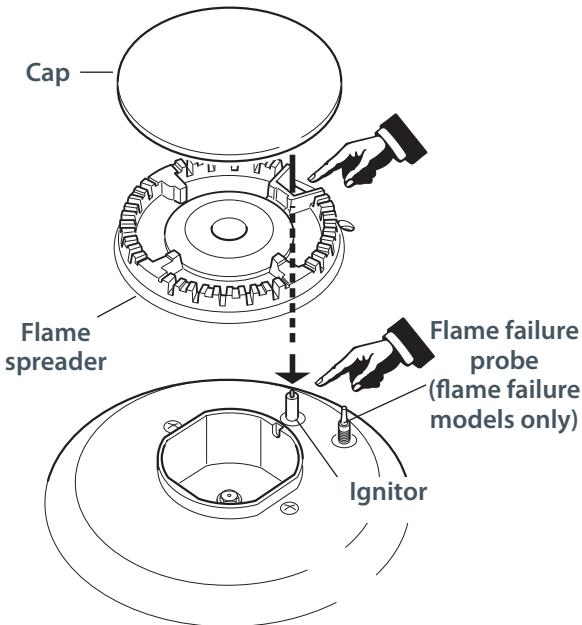

Fig. 18 Correct line-up of auxiliary, rapid and semi-rapid burner parts
- Positioned correctly as shown in Figs. 18 and 19.
- It is very important to check that the burner flame spreader and the cap have been correctly positioned (see Fig. 18). Failure to do so can cause serious problems.
- Check that the ignitor (Figs. 18 and 20) is always clean to ensure trouble-free sparking.
- In the models with the flame failure safety device, check that the probe (Figs. 18 and 20) next to each burner is always clean to ensure correct operation of the safety valves.